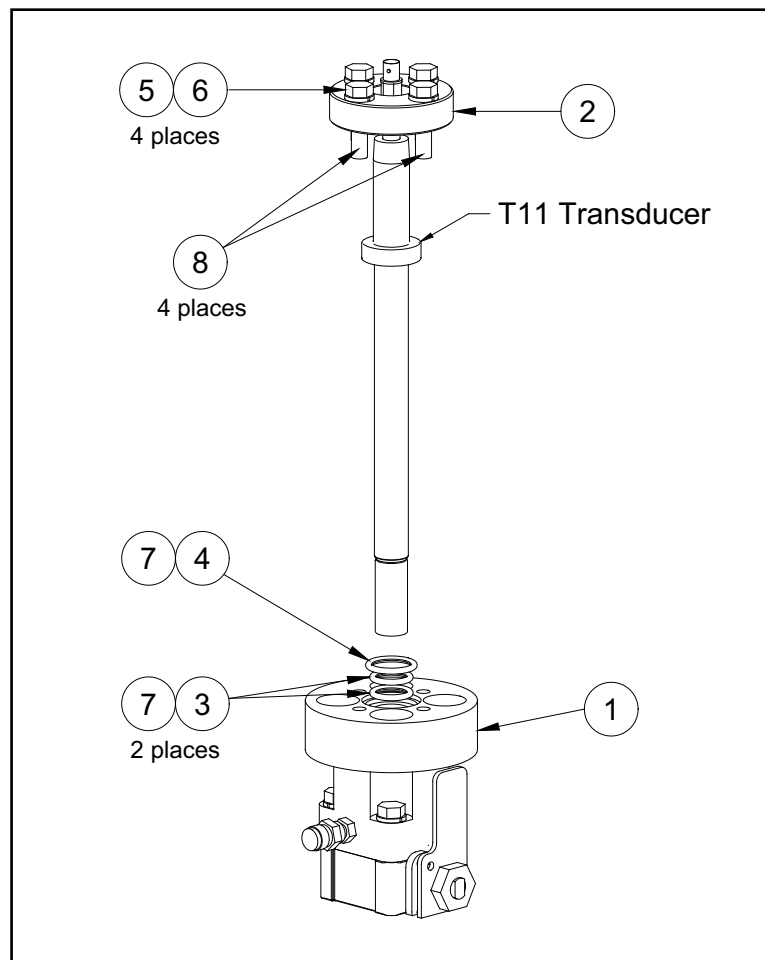

Figure 84: T11 Installation Components for a Pressurized Pipe
See *Table 11* below and *Figure 84* below for the components required to install the new transducer.
*Component numbers correspond to item numbers in *Figure 84* below.